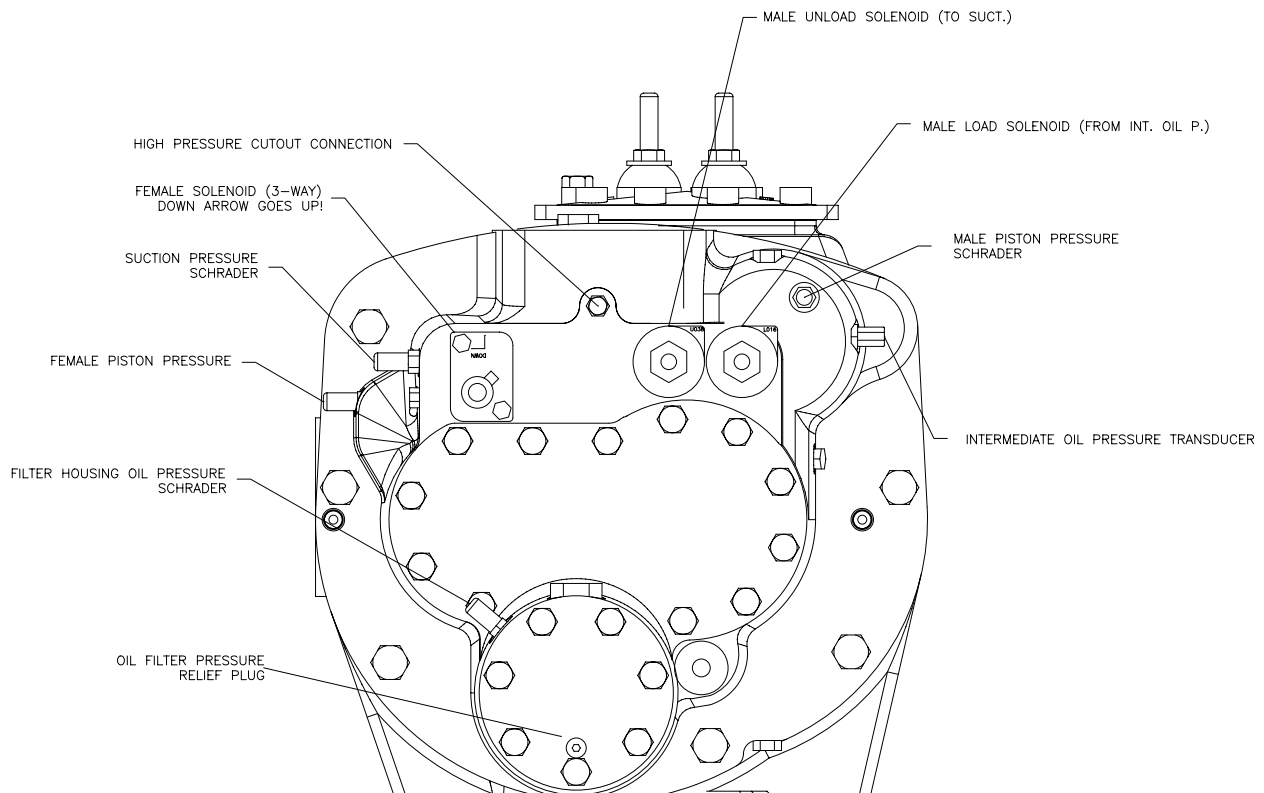

Figure 33. CHHP Compressor
- 1 Connect a manifold gauge set to the schrader valve located at the side of the piston housing. Refer to Figure 33. This schrader allows access to the back side of the step load piston and, therefore, will allow direct measurement of the pressure that actuates the step load valve.
- 3 Connect a manifold gauge set to the schrader valve located at the end of the piston housing. This schrader allows access to the pressure behind the male piston. Refer to Figure 33.